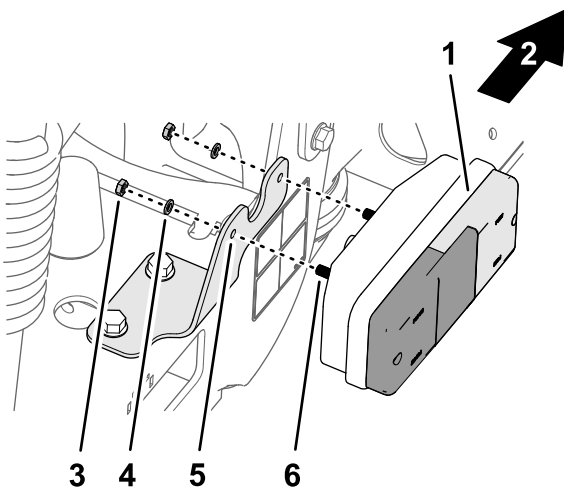

Figure 58
2. Assemble the tail lamp to the taillight bracket (Figure 58) with 2 lock washers and the 2 nuts (5 mm).